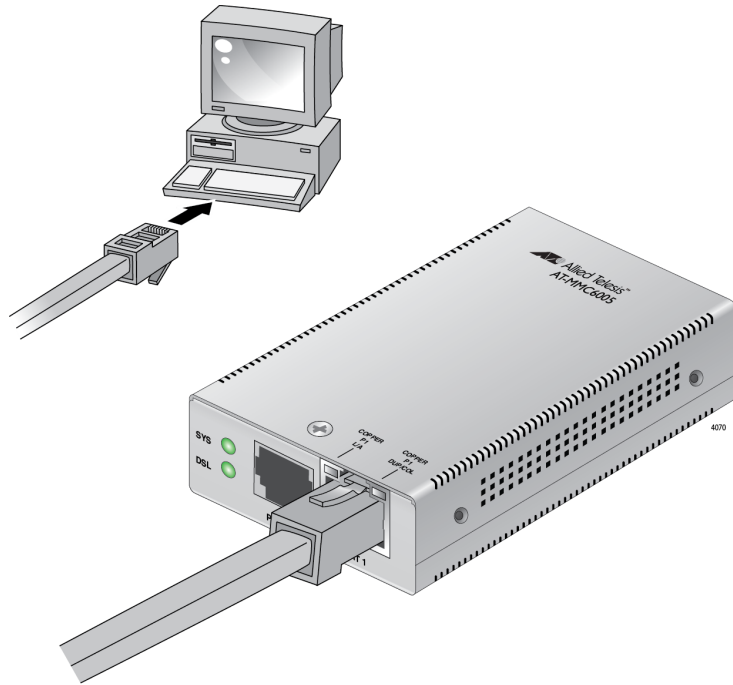

Figure 12. Subscriber Unit Ethernet Port to Computer
1. Connect an Ethernet cable from the RJ-45 Ethernet port to the Ethernet port on your computer, as shown in Figure 12.